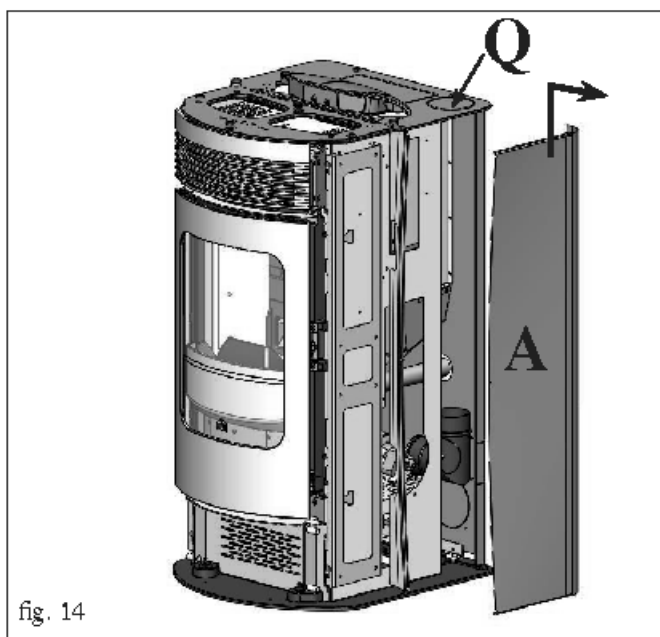

fig. 14
- Remove the closing cover (Q - Fig. 14)